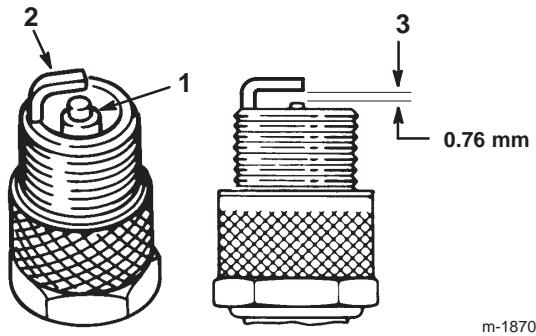

Figure 25
1. Look at the center of the spark plug (Fig. 25). If you see light brown or gray on the insulator, the engine is operating properly. A black coating on the insulator usually means that the air cleaner is dirty.
2. Check the gap between the center and side electrodes (Fig. 25) and bend the side electrode if the gap is not correct.